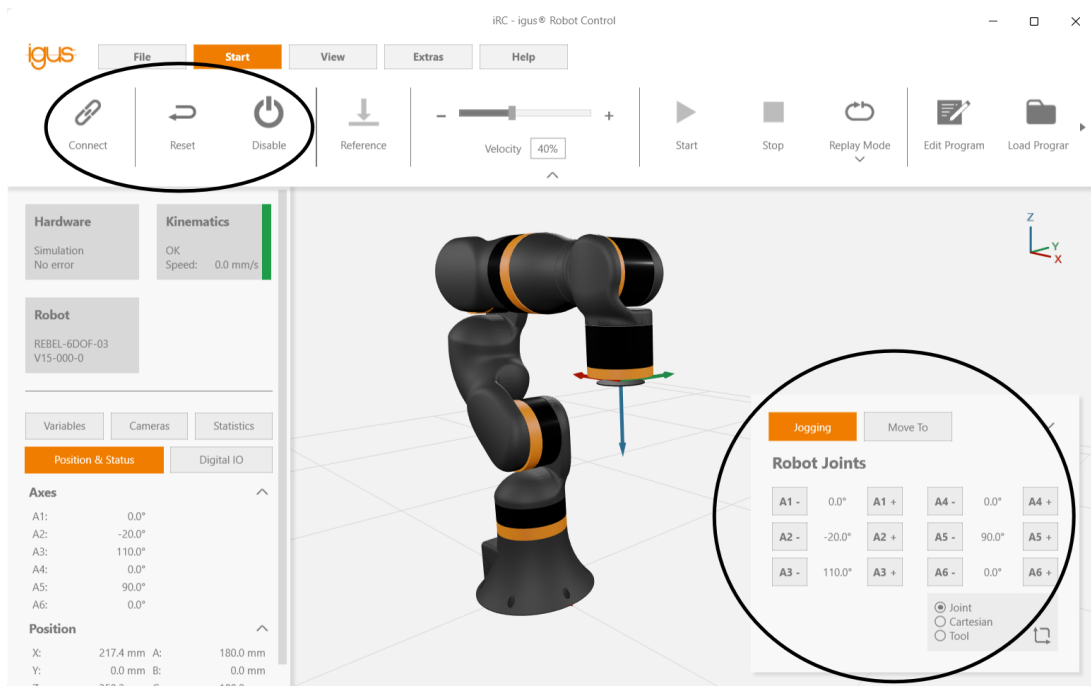

Figure 2: Jog Commands
3. You can now activate the robot by pressing the following buttons in the given order (see also Fig. 2):
5. You can now move the robot's joints using the buttons on the "Jogging" section (see Fig. 2).